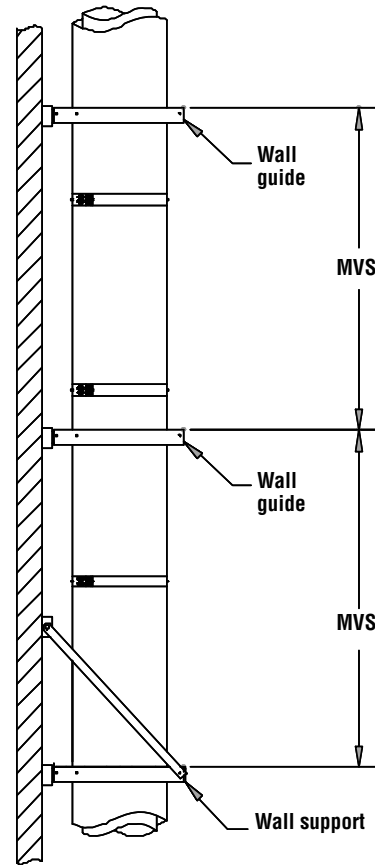

Figure 28 - Wall guide location
2. The proper location to install the wall guide is immediately below a locking band. The locking band must be able to move without interfering with the guide when thermal expansion occurs. See **Figure 28** (wall guide location).